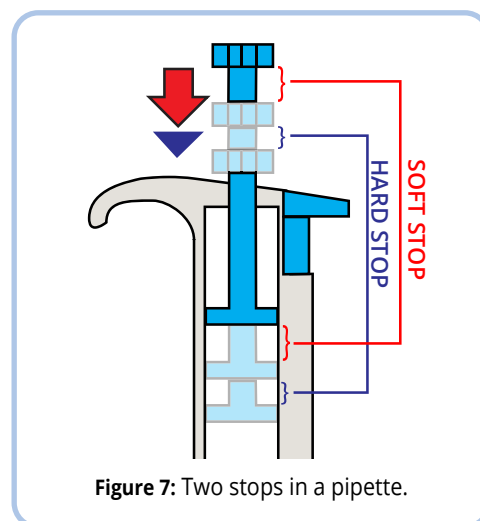

Figure 7: Two stops in a pipette.
*This step is slightly complicated by the fact that most micropipettes have two plunger positions (Figure 7). Depressing the button to the first "soft" stop (red brackets in Figure 7) creates a vacuum that matches the set volume. This will result in the correct amount being aspirated. However, depressing the button to the second "hard" stop (red + blue brackets in Figure 7) will expel additional air and create a larger vacuum